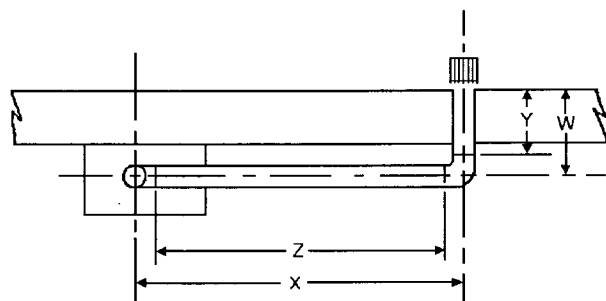

Fig.17
- 5.5.24** Measure carefully the distance between the centre of the flue bend on the boiler to the centre of the hole through the wall (dimension X fig. 17).
- 5.5.31** Ensure that the flue pipe runs parallel to the wall then carefully measure the distance from the outside face of the wall to the centre of the extra bend (dimension W Fig. 17).